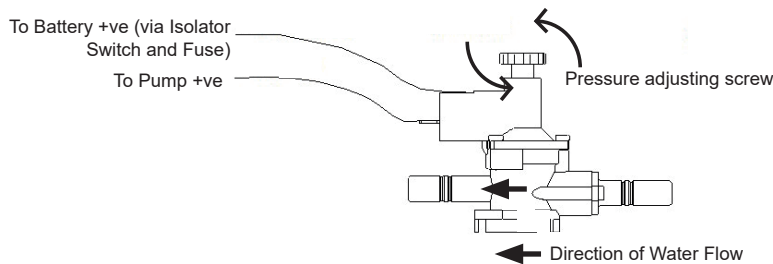

Figure 2: Connecting Microswitch Terminals
Step 3 Connect microswitch terminals (Fig 2).
- Step 2 Tighten the adjusting screw clockwise until the pump comes on (see Fig. 2).